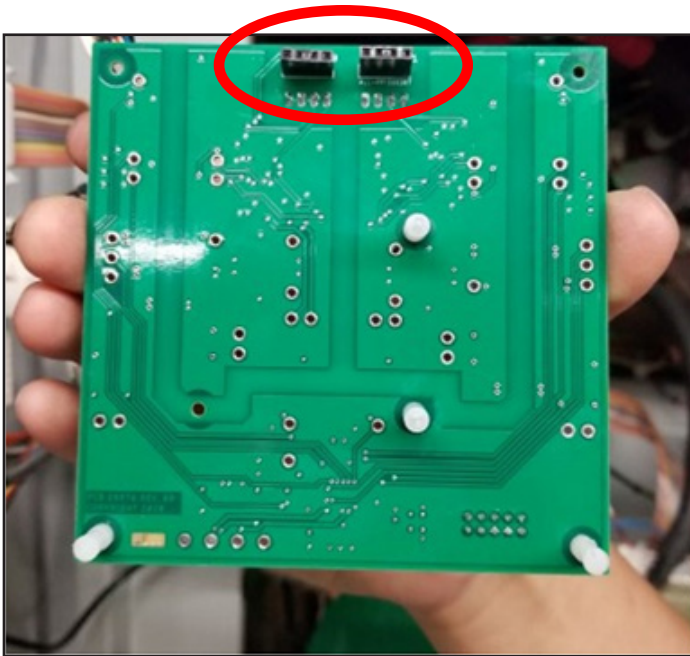

Figure 4 – GCAN Board Connectors
3.3.2 – Connect the GCAN board connectors on the board back (Figure 4) to the BMID A and BMID B ports on the GSE control board as shown below and on the next page (Figures 4 – 7).